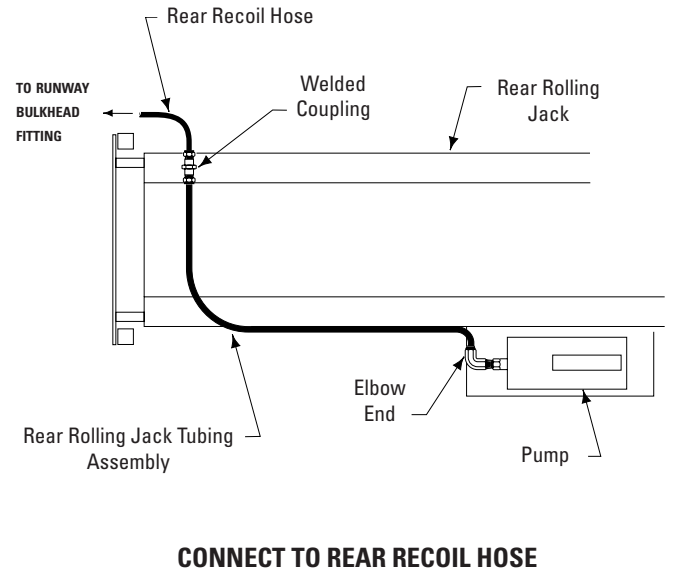

Fig. 37
- C. Connect one end of provided rear recoil hose to bulkhead T-fitting at midpoint of runway. Connect other end of recoil hose to coupling welded on rolling jack, Fig. 37 and 38.
- D. Connect elbow end of rolling jack tubing assembly to air pump and male end to the coupling, Fig. 37 and 38.